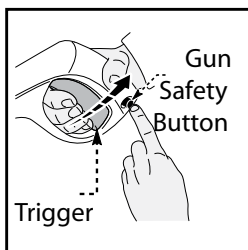

Fig. 7
- To lock the trigger of the spray gun aim the gun away from you and push the lock button from right to left, (Fig. 7), after doing so, squeeze or pull the trigger to make sure it is locked and will not move. Get in the habit of leaving the lock button in the "locked" position when the power washer is not in use. This ensures the gun is in "safe" mode until it is ready for use.